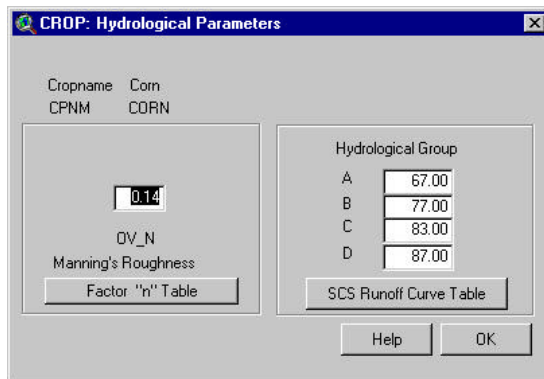

Figure 14.38
- f. The CROP: Hydrological Parameters dialog box is displayed when data for a new land cover/plant is saved (Figure 14.38)